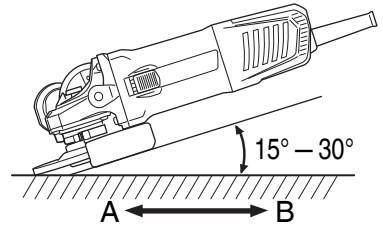

Fig. 3
Do not apply the entire surface of the depressed center wheel to the material to be ground. As shown in **Fig. 3**, the machine should be held at an angle of $15^{\circ} - 30^{\circ}$ so that the external edge of the depressed center wheel contacts the material at an optimum angle.
3. To prevent a new depressed center wheel from digging into the workpiece, initial grinding should be performed by drawing the grinder across the workpiece toward the operator (**Fig. 3 direction B**).